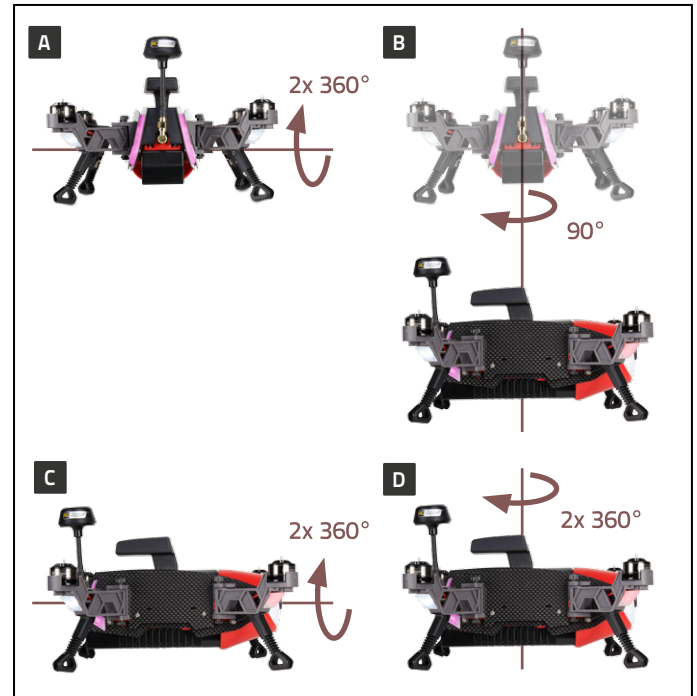

Fig. 11
2. Rotate the Navigator 250 in sequence as shown in »Fig. 11, A to D. Wait for confirmation: